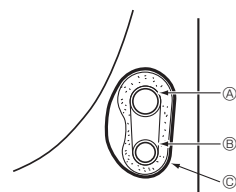

Fig. 4-4
- ① Site-side refrigerant piping
- ② Unit side refrigerant piping
4.3.1. Storing in the piping space of the unit (Fig. 4-4)